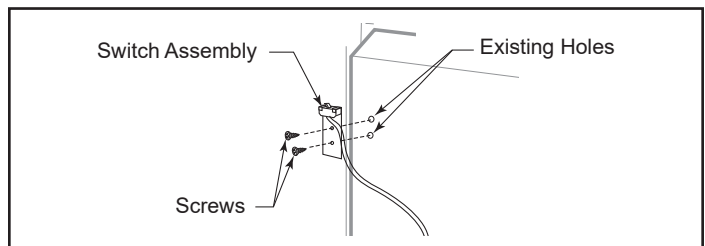

Figure 41 - Attach switch assembly to rear shroud.
1. Attach switch assembly to left rear side of stove shroud (when facing shroud) using two screws and existing holes in shroud. (Figure 41)